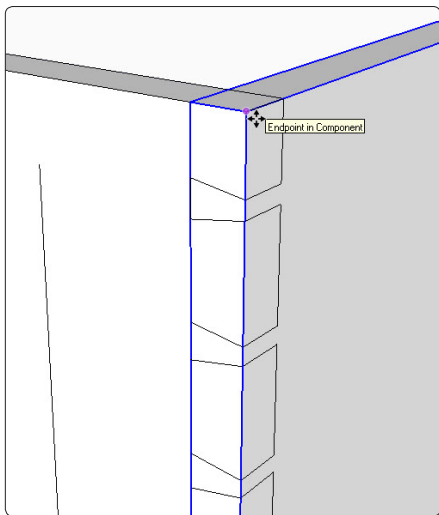

Figure 31. Use the Move/Copy Tool to reconnect the two components so that you can use the tails to shape the pins.
Step 10 Use the tails in the front component to shape the pins on the side component. With the Move/Copy Tool, join the two components at their top outside corners, as shown in Figure 31.